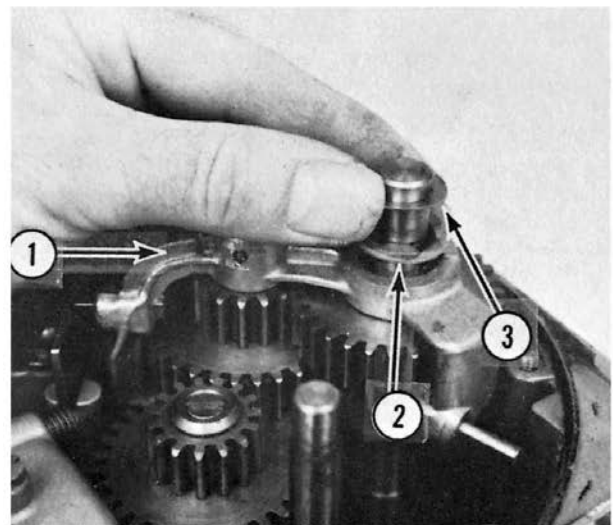

Fig. 3-32
- L. Install the tumbler yoke and gear assembly (1, Fig. 3-32).
- M. Install the washer and retaining ring (2, Fig. 3-32) on the upper transmission shaft.
- N. Install the washer (3, Fig. 3-32) on the upper transmission shaft.